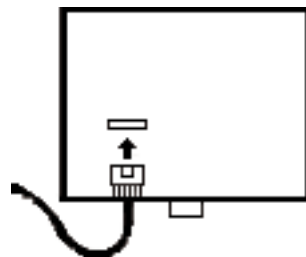

Figure 22
- 2 Holding the computer type connector on the end of computer controller control cable (cable coming out of the top of the ergometer). Align it with the connector on the back of the computer controller. Push the cable connector firmly into place. (See Figure 22). Be careful not to bend the computer connector pins. Tighten the screw knobs of the connector to the computer controller